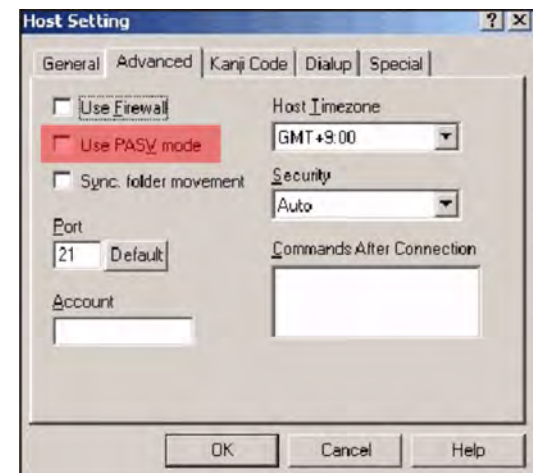

Figure 3-44 Host Setting-Advanced Tab
- Under the **Advanced** tab, ensure the selection to **Use PASV mode** is unchecked (**Figure 3-44**).